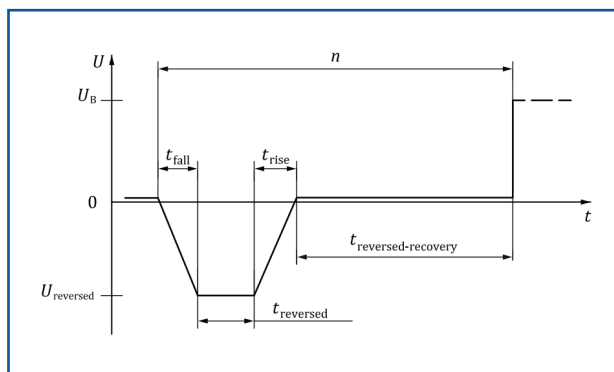

Figure 17 — Reversed voltage test case 2
■ In all other cases, apply the test voltage U_{reversed} (see Figure 17 and Table 16) simultaneously to all relevant inputs (connections) of the DUT for a duration of (60 ± 6) s.